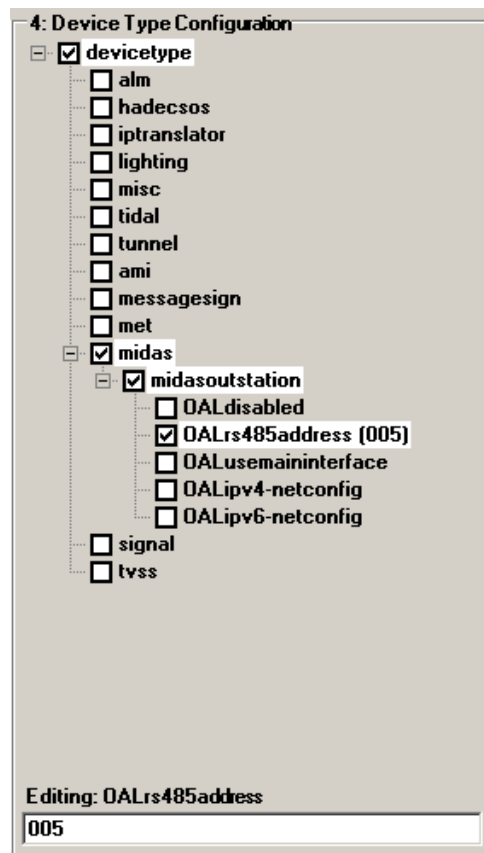

Figure 13 - Device type configuration MIDAS outstation example
Each of the devices added to the device list will have a Device Type Configuration. The device type configuration is done through an expandable tree of device options. There are various configurations available; however, Figure 13 shows a MIDAS outstation with a RS485 OAL address example.
- e) When a property is selected and it can contain extra data, the data can be entered in the edit box below. For example the OALrs485address in Figure 13,